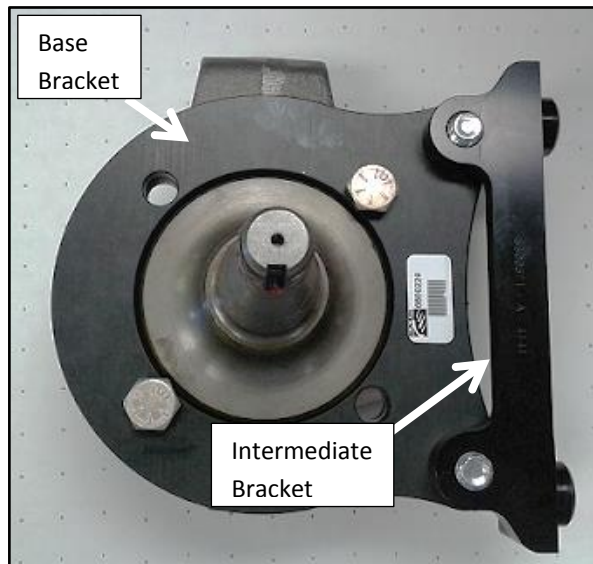

Figure 2: Baer base/intermediate bracket installed
2. Install the Baer base bracket onto the TCI spindle. Baer supplies ½-20x1.5" bolts, washers, and Nylock nuts for the top mounts. The bracket must be installed with the caliper position trailing (towards rear of vehicle). The top bolts will hold the bracket only, the lower bolts will also hold the steering arm and are supplied with the spindle. Torque each bolt to 95 ft-lbs. See Figure 2 for reference. Bolt the Baer intermediate bracket to the base bracket as shown in Figure 2 using the supplied M14-2.00 x 30mm hex bolts and washers. Snug the bolts for now as they will be removed during the shimming procedure.